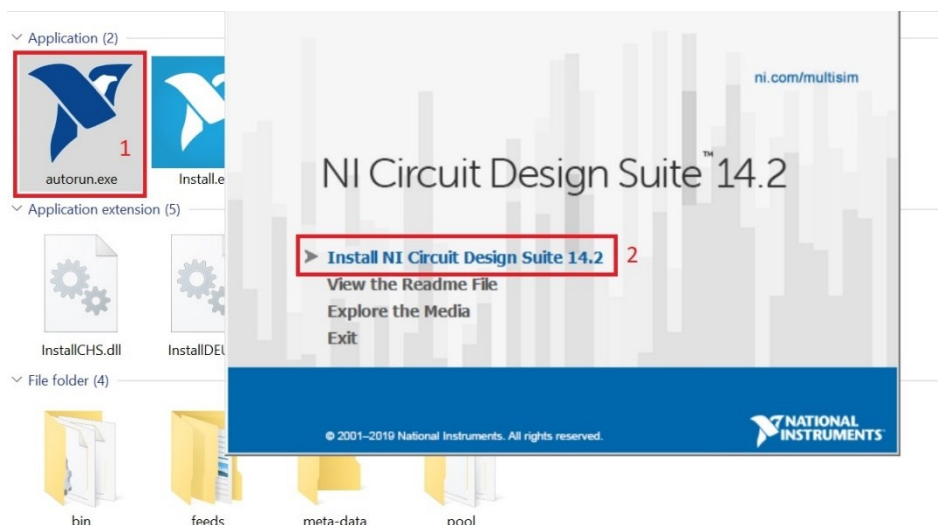

Fig. 1.1: How to install Multism and Ultiboard
Once the extraction process is completed, open the new folder and locate an exe file named **Autorun** (1) as shown in Fig. 1.1. Double click on this file to begin the installation.